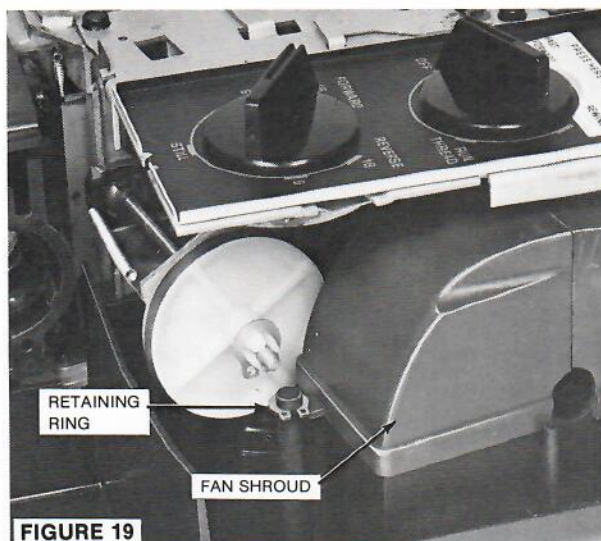

FIGURE 19
4. Remove the RETAINING RING from the FAN SHROUD, Figure 19.
5. Remove the RETAINING RING from the FAN SHROUD, Figure 19, Page 11.